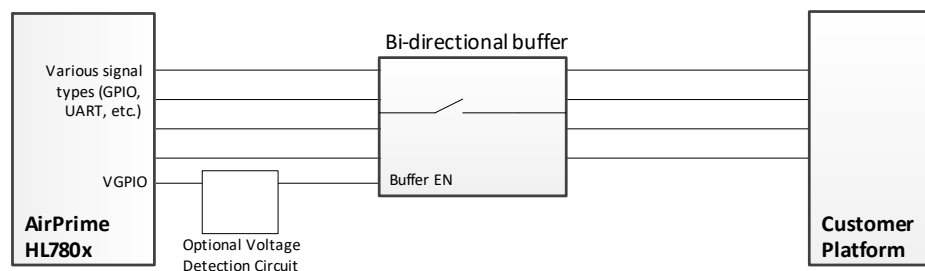
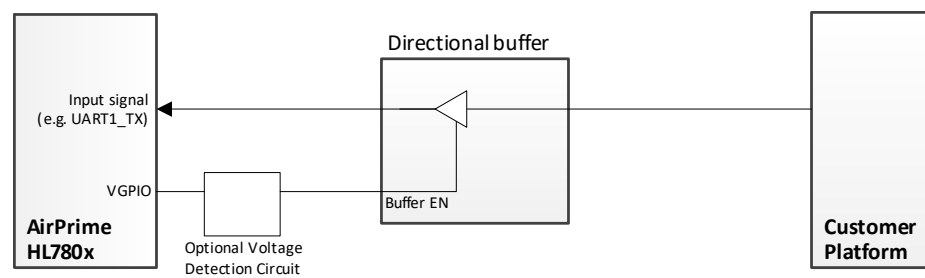

Figure 6-3: Example—Buffer – Bidirectional Signal
Figure 6-4: Example—Buffer – Directional Signal
- Bidirectional (Input/Output) signals—For module I/O signals (e.g. GPIOs), an analog switch that can tri-state both the output and the input can be used (e.g. Texas Instruments TMUX1511). As shown in Figure 6-3, I/O signals connected to the buffer will be tri-stated.
- Directional (Input) signals—For module inputs (e.g. UART1_TX), a logic buffer with output tri-state mode can be used (e.g. Texas Instruments SN74LVC1G126). As shown in Figure 6-4, the signal is controlled and, when disabled, the output signal is tri-stated.
To ensure faster detection of VGPIO transitions, Sierra Wireless recommends adding an optional voltage detection circuit (as shown in Figure 6-3 and Figure 6-4) to monitor and detect the transition low, and then control (enable/disable) the associated buffer circuit.